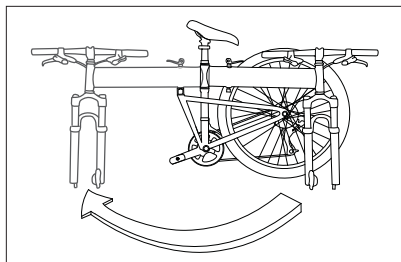

Fig. 11: Unfold the frame.
2. Place the rear wheel firmly on the ground, grasp the rear wheel with one hand and the handlebar stem with the other and unfold the bike. (Fig. 11).
3. When the frame is almost completely unfolded, push down on the opened frame quick release so the quick release end nut enters the quick release drop box. (Figs. 11 & 12).